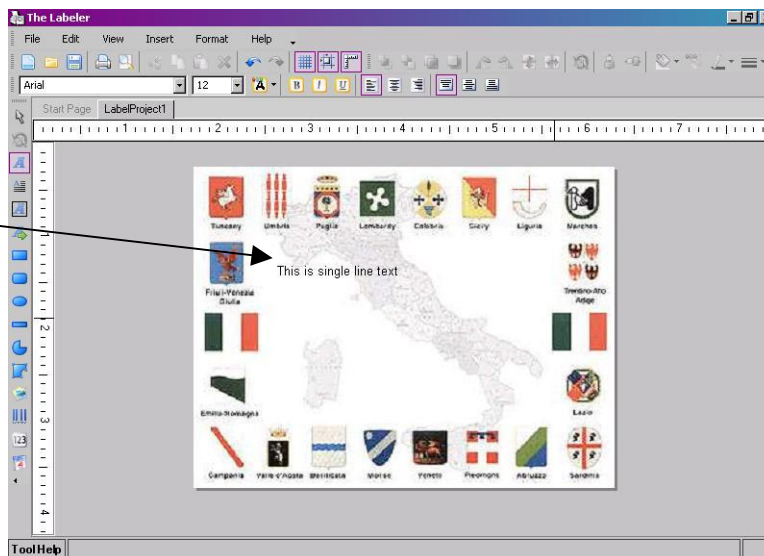

Figure 3.4.1.3: Typing Single Line Text
4. Press the enter key once you have finished typing in the text that you want (see Figure 3.4.1.4).